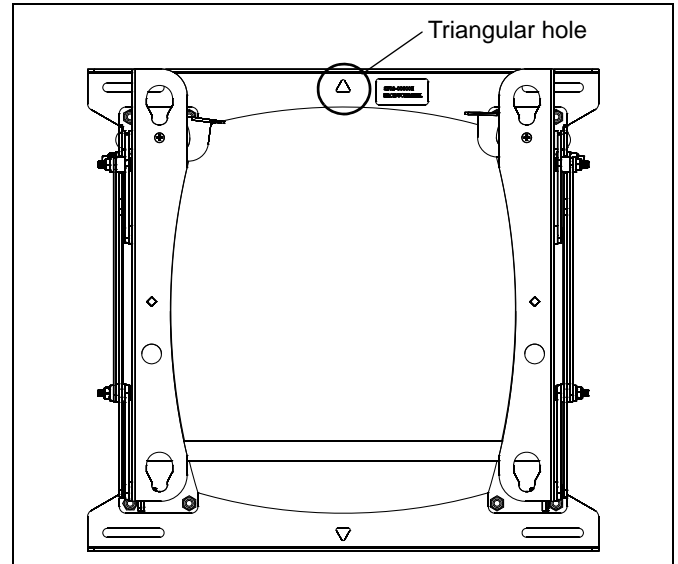

Figure 2
3. Using a nail as a temporary hook, hang the mounting system on the wall using the triangular hole located in the center of the mounting system. (See Figure 2)
1. Using a nail as a temporary hook, hang the mounting system on the wall again using the triangular hole located in the center of the mounting system. (See Figure 2)